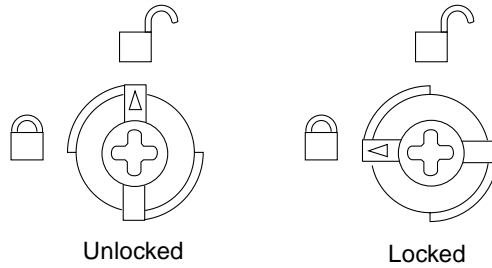
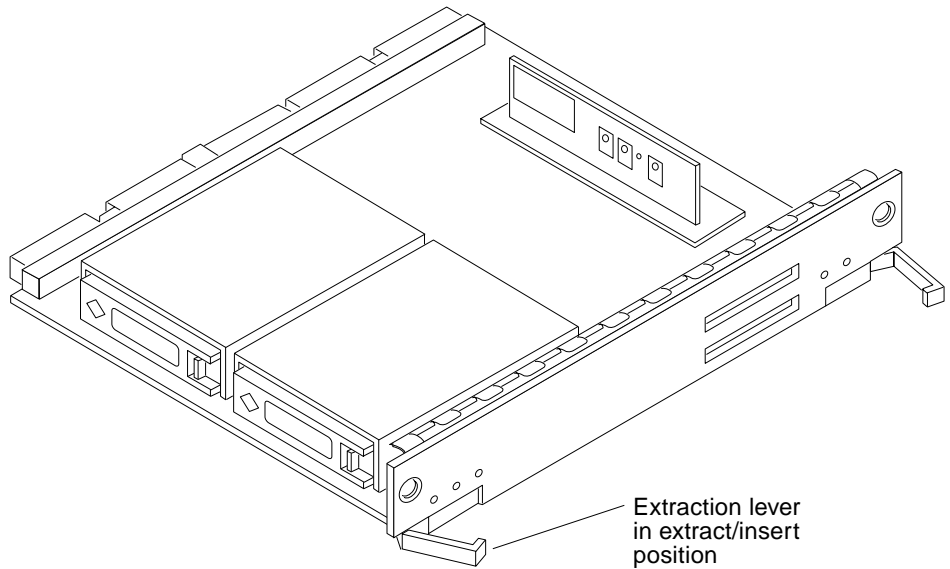

FIGURE 5-4 Unlocking and Locking Quarter-Turn Access Slots
FIGURE 5-5 Disk Board
Insert the screwdriver into each quarter-turn access slot (the slots are located on the left and right sides of the board's front panel) and then turn a quarter turn so that the arrow points to the unlocked position (FIGURE 5-4).
- 4. Pull the ends of both extraction levers outward simultaneously to unseat the board centerplane connector from the centerplane receptacles (FIGURE 5-5).**
Insert the screwdriver into each quarter-turn access slot (the slots are located on the left and right sides of the board's front panel) and then turn a quarter turn so that the arrow points to the unlocked position (FIGURE 5-4 on page 5-7).
See FIGURE 5-5 on page 5-7.
See FIGURE 5-4 on page 5-7 and FIGURE 5-5 on page 5-7. The board will not seat fully unless the levers are in this starting position and both quarter-turn access slots are unlocked.
See FIGURE 5-4 on page 5-7.